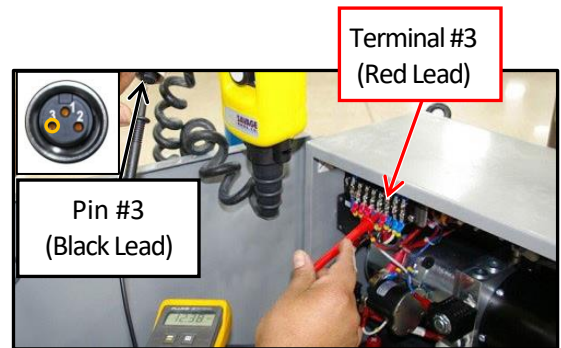

Figure 80– “FORWARD” Position
2. Place the red multimeter lead on **terminal #3** on the terminal strip. Place the black multimeter lead into **pin #3** on the coil cord connector (Figure 80). When inserting the multimeter leads make sure not to expand the pins in the connector. The voltage reading on the multimeter needs to be 0V. Select the **“FORWARD”** position on the operator control pendant at which point the voltage should go to **12V** or slightly higher.